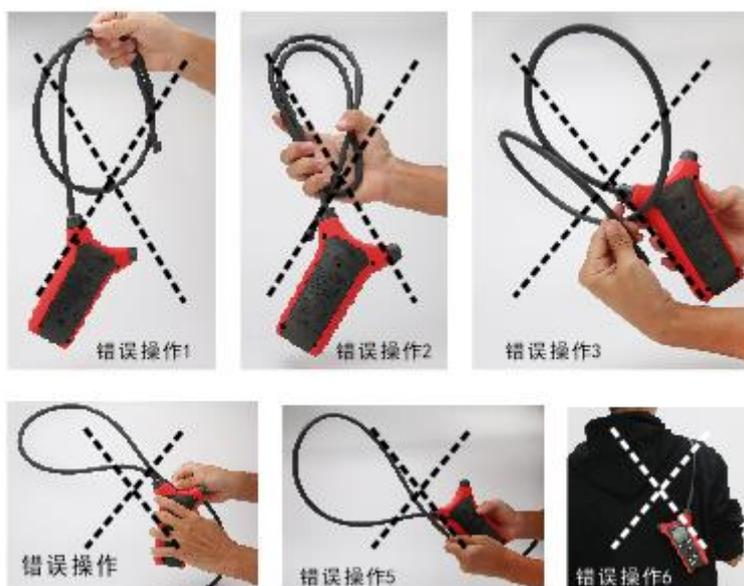

Figure 4.4
- 6) Please do not perform the following improper operations. (see Figure 4.4)